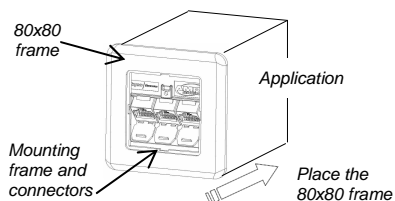

Fig. 7
- 5.4 On the mounting frame, place the 80x80 frame from AMP NETCONNECT (PN 336608-X) or from other manufacturer (fig. 7).